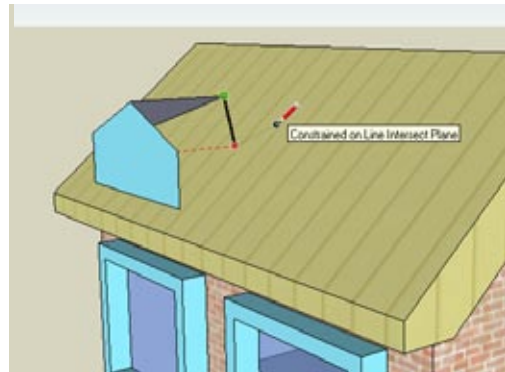

Figure 5-44
6. Move in the red direction then hold Shift while clicking the roof face (Figure 5-44). This is another way to use a double constraint.